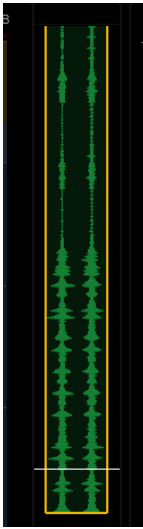

Figure 17. Indication of a clip targeted for editing
Clips are targeted for editing when they reach the playhead on the Display Modules when in any Waveform view as shown in Figure 17. Resolution of edits and moves using the **Sel** and **In** switches is determined by the Pro Tools Nudge value, which can also be adjusted directly from S4/S6. Edits made by rotating S6 knobs use the current Knob Preference settings (see Knob Speed and Sensitivity).
- 3 Cue the session so that a clip is in contact with the Display Module playhead. On the Display Module, a yellow border or bracket appears around any clip that is in contact with the playhead on a strip in Edit mode (see Figure 17).